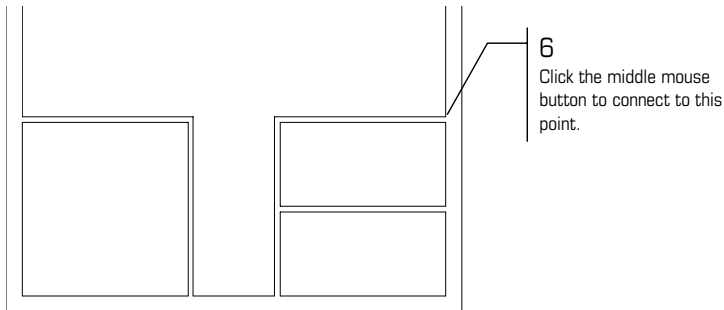

Figure 3.30: Selecting the starting point of the countertop
5. Move the cursor to the corner marked 6 in Figure 3.30 and click the middle mouse button to select it as your first reference point.